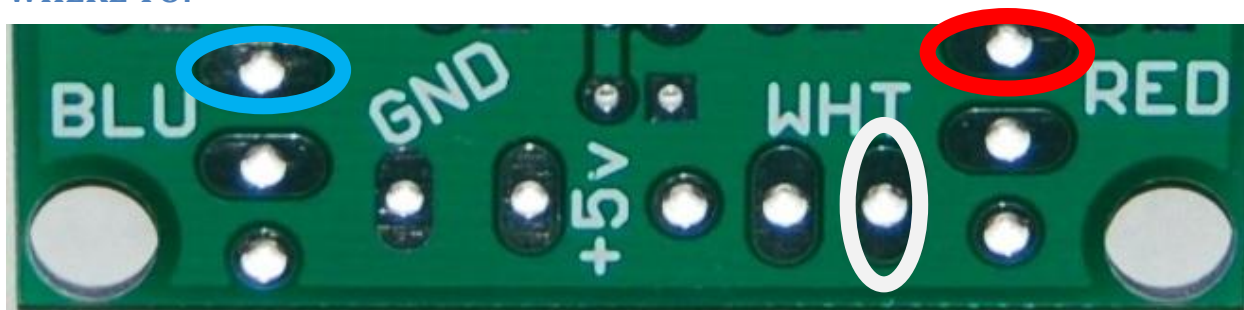

Figure 2: Per LED Color Power Connection Points
Along the bottom edge of the **groLEDs** printed circuit board the optional components of manual slide (*power*) switches and a two-position terminal block for wire-to-board connections can be installed (*on the back side of the board*). The view presented in figure 2 is that of this same area as seen on the top side of the board. The (*added*) three colored ovals, Red, White, and Blue, show the actual wiring holes that really connect to the current limiting resistors driving the LEDs, by group, respectively.
The hole in Figure 2 labeled “+5v” is the main common power input connection. It may be wired directly by a wire soldered into this particular hole, and may supply any safe and functional (*positive*) voltage (*referenced to the “GND” hole*) that the kit-user wishes to apply to all three color-banks of LEDs for this particular assembly.
The hole in Figure 2 labeled “GND” is the main common power return or GROUND connection. It may be wired directly by a wire soldered into this particular hole, or the kit-builder may (*optionally*) install the 2-position terminal block (*on the back side of the board*), as discussed later in this document. This enables easier rewiring and reconfigurations, as growing conditions change.
- Connect +4.22volts (*referenced to “GND”*), via a wire to the power hole (*top hole with the blue oval in figure 2*) of the “**BLU**” switch hole patterns, to turn on the Blue LEDs (*will need at least 600mA of current driving capacity*).
- Connect +4.12volts (*referenced to “GND”*), via a wire to the power hole (*right hole with the white oval in figure 2*) of the “**WHT**” switch hole patterns, to turn on the White LEDs (*will need at least 200mA of current driving capacity*).
- Connect +3.99volts (*referenced to “GND”*), via a wire to the power hole (*top hole with the red oval in figure 2*) of the “**RED**” switch hole patterns, to turn on the Red LEDs (*will need at least 200mA of current driving capacity*).